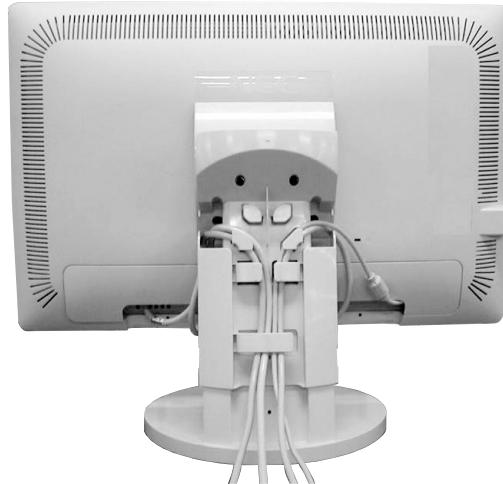

Figure C.7
11. Pivot the screen 90 degrees back to its original position. Tilt and height of monitor can be adjusted to fit user's preference (**Figure C.7**).